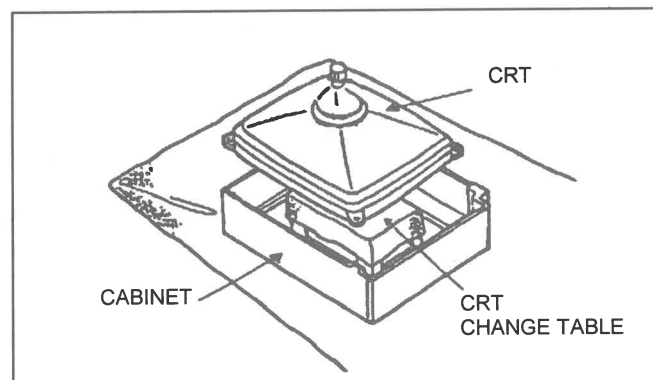

Fig. 5
- 4. After 4 screws have been removed, put the cabinet slowly on cloth (At this time, be carefully so as not to damage the front surface of the cabinet) shown in Fig.5.